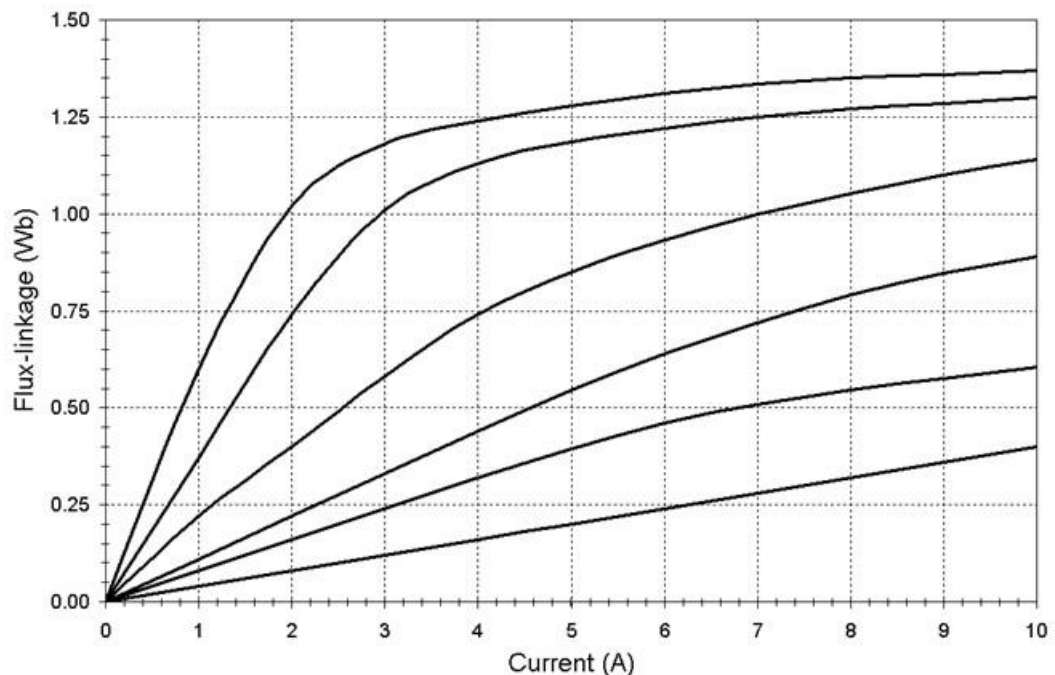

Figure 4.1 Measured flux-linkage versus current characteristic for one phase of a 3-phase 6-4 switched reluctance machine
- c. The machine is operating at the same steady state operating point of 510kW with at a power factor of 0.8 lagging as calculated in part (a). Starting from this operating condition and assuming that the field current does not change, calculate using an *iterative approach* the maximum change in load which can occur if stability of the generator is to be maintained (you need only iterate until the accelerating and decelerating areas agree within 5% of the decelerating area). (8)
4. a. Figure 4.1 shows the measured variation of coil flux linkage with phase current for one phase of a three-phase switched reluctance rotating machine. The characteristics are measured at equal 6° (mech) increments of angular displacement over the normal torque stroke. This machine has 6 stator teeth (each equipped with a concentrated coil having 127 turns) and 4 rotor teeth. The coils of a given phase are connected in series. The stator and rotor cores are manufactured from silicon iron.